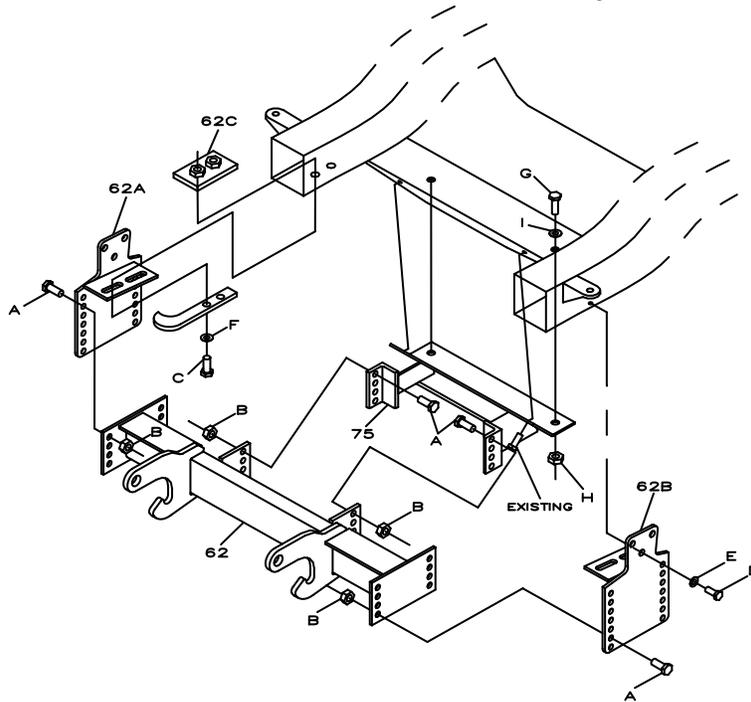

Figure 1
1. Remove the three bumper mounting bolts on each frame rail. Remove tow hooks if present, and the corresponding tapped plate inside the frame rail. Insert the NUT PLATES (Ref 62C, Fig. 1) into the front frame rails. Position the PUSH BEAM SUPPORT PLATES (Ref. 62A and B, Fig. 1) to the front frame rails of the truck. Using M14 x 2.00 Hex Head Bolts and M14 Lock Washers provided, bolt the PUSH BEAM SUPPORT PLATES through the outside of the frame sides. Next use the $\frac{1}{2}$ " - 13 x 3" hex head bolts and the $\frac{1}{2}$ " flat washers to bolt the PUSH BEAM SUPPORT PLATES through the bottom of the frame into the NUT PLATES. If the truck is equipped with tow hooks, it will be necessary to re-install the right hook on the left side of the truck and the left hook on the right side of the truck. Tow hooks should be installed below the PUSH BEAM SUPPORT PLATES. Fasteners should only be finger tight.
2. Remove the four existing bolts holding the skid plate in place on the vehicle. Use the same four hex head bolts to mount the ANGLE BRACKET (Ref. 75, Fig. 1) into place on the outside of the skid plate. Bolts should only be finger tight.
3. Bolt the PUSH BEAM (Ref. 62, Fig. 1) in place using the $\frac{1}{2}$ " - 13 x 1- $\frac{1}{2}$ " hex head bolts and self locking nuts provided. Fasteners should only be finger tight. NOTE: the proper height